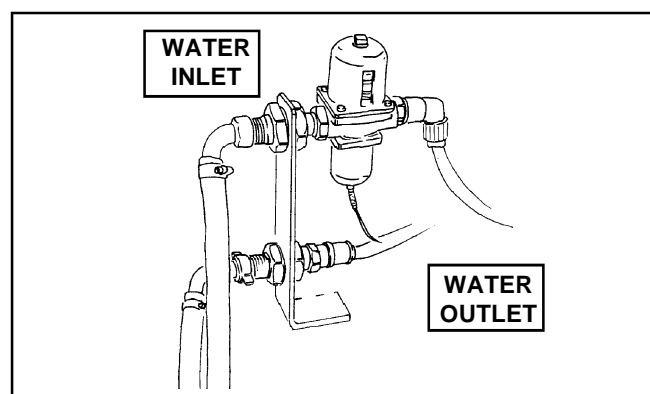

Figure 2
- Connect the fitting marked "WATER IN" to the cold water supply. Connect the fitting marked "WATER OUT" to a drain (ref. Fig.2).